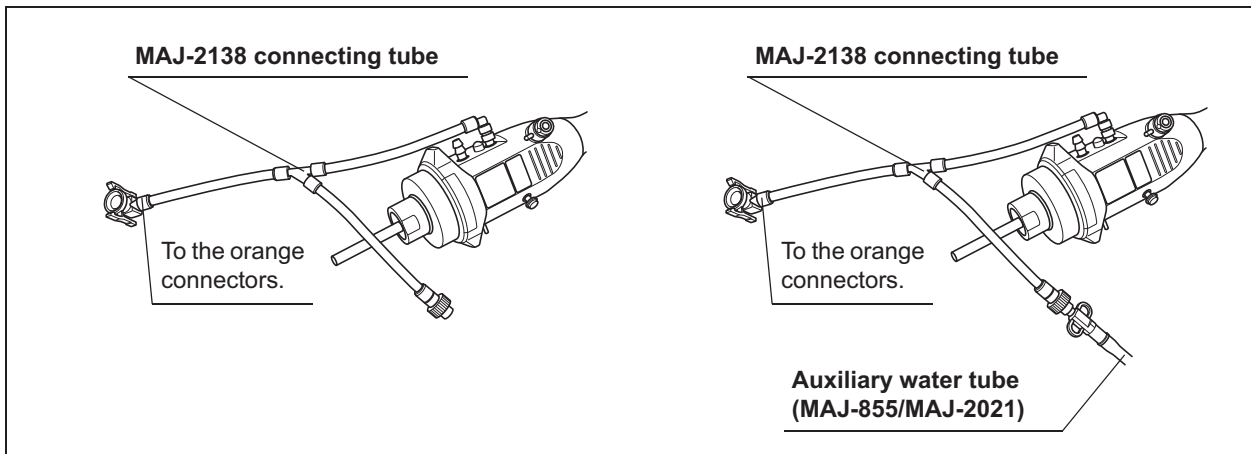

Figure 6.21
When using the MAJ-2138 refer to “■ Loading of auxiliary water tube of first endoscope” on page 186 and Figure 6.21 on page 186.
- 1 Insert the endoscope side connector of the MAJ-2138 connecting tube into the auxiliary water inlet of first endoscope. Turn the outer ring clockwise to connect firmly. Refer to right of the Figure 6.21.
- 2 Insert the auxiliary water tube side connector of the MAJ-2138 connecting tube into the Luer port of the auxiliary water tube. Turn the outer ring clockwise to connect firmly. Refer to left of the Figure 6.21.